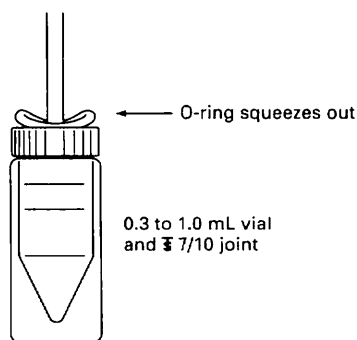

Fig. 33 O-ring squeeze-out with $\text{T } 7/10$ joint.
2. **A 0.3 to 1.0 ml conical vial and $\text{T } 7/10$ joint.** (Fig. 33) The T joint rattles around in the hole in the plastic caps for this size. As a consequence, whenever you tighten these joints, the O-ring squeezes out from under the cap. Yes, the joint's tight, but gas-tight? You can pull the joints apart with modest effort, and, if the O-ring has squeezed out entirely, forget the cap as a stabilizing force.